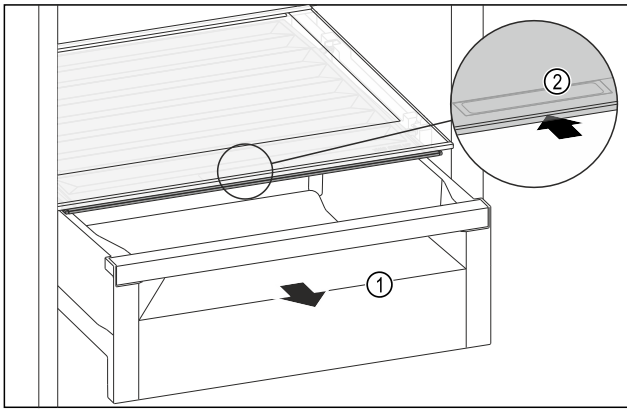

Fig. 172
- ▶ Pull out the drawer Fig. 172 (1).
- ▶ Grasp the recessed grip Fig. 172 (2) on the compartment lid and push the compartment lid backwards at the same time.